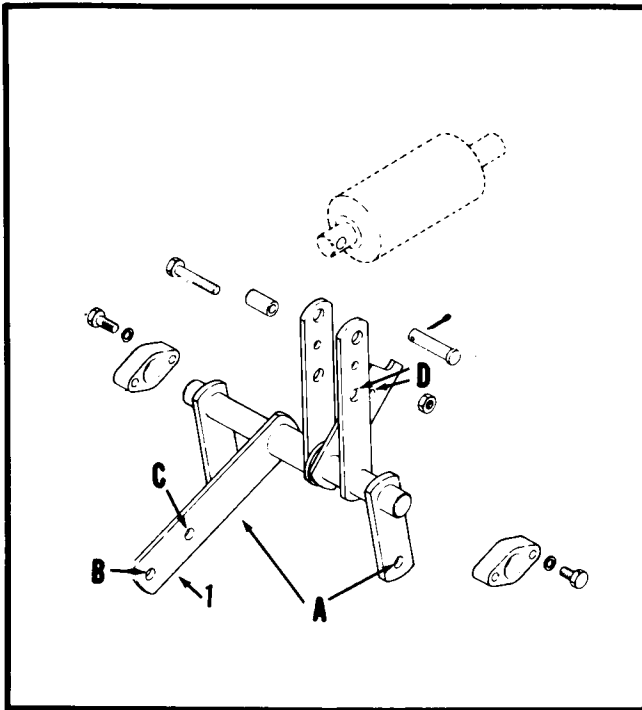

Fig. 7-8 D-Series Lift Linkage
The lift bellcrank No. 1 in Fig. 7-8 is actuated by the hydraulic lift cylinder.
1. Refer to Fig. 7-8 during the following procedure.